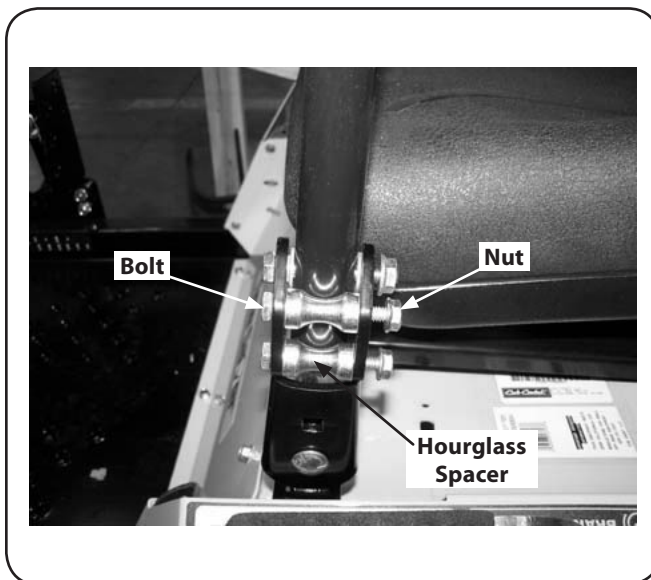

Figure 3-5
2. From the outside, insert the bolts through the hourglass spacers and the holes of the pivot bracket. Secure with the flange lock nuts. See Figure 3-5.